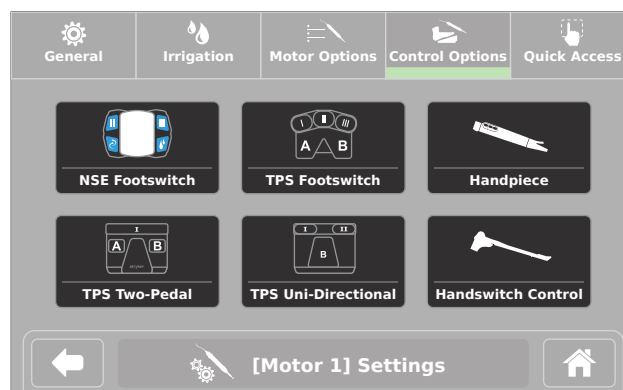

Figure 24 – Control Options Screen
- Touch the control device button to adjust options for that specific device (Figure 24).